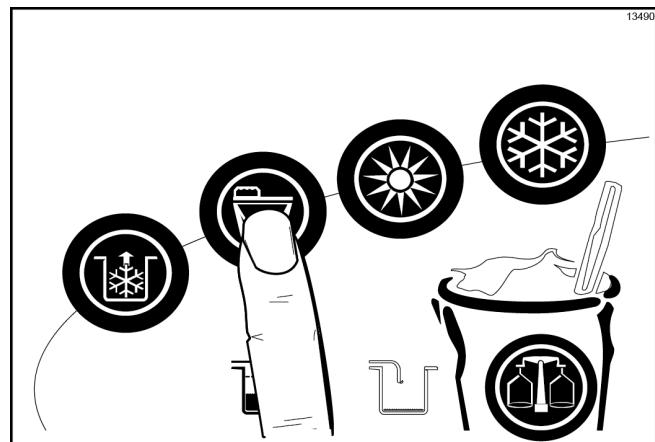

Figure-100
2. With a pail beneath the door spout, press the Wash symbol . (See Figure-100.)